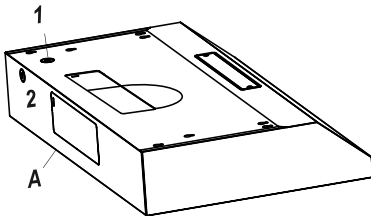
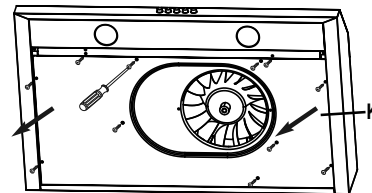

Fig. 10
Fig. 13
- Remove the bottom panel of the range hood (see Fig. 13) to access the electrical wire leads.
- Use the power supply cable to connect the range hood (A) directly to the junction box or circuit breaker box. Use a flexible, armoured, or nonmetallic sheathed copper cable only. Never use an extension cord or adapter plug.
- Connect a UL-listed or CSA-approved conduit connector to each end of the power supply cable (at the range hood and at the junction box). Connect the 2 colored wires from the range hood (A) to the corresponding wires from the electrical source: black to black (live), white to white (neutral), and the house grounding wire to the green ground screw. Use either the top hole (1) or the back hole (2) of the range hood depending on your installation type as shown in Fig. 10.
- Choose the appropriate electrical knock-out hole to remove for your installation type. Use the top hole (1) if your electrical supply is in the cabinet and the back hole (2) if your electrical supply is on the wall below the cabinet (refer to Fig. 10).
- The damper and the adapter are located inside the range hood. To access these parts, remove the bottom panel (K) if you have not previously done so (see Fig. 13).
- Choose to install the damper (D) either in the top position (3A & B) for top venting or in the back position (5) for back venting. Adapter (E) is used for top venting only and installs in position 3A and 4.
- Attach damper (D) or adapter (E) over chosen knockout opening. Make sure the damper pivot is oriented on top such that the damper stays closed when not in use.
- Secure the damper (D) or adapter (E) to the range hood (A) with the short tapping screws (BB).
- Seal the damper (D) or adapter (E) to the range hood (A) on all four sides with duct tape.